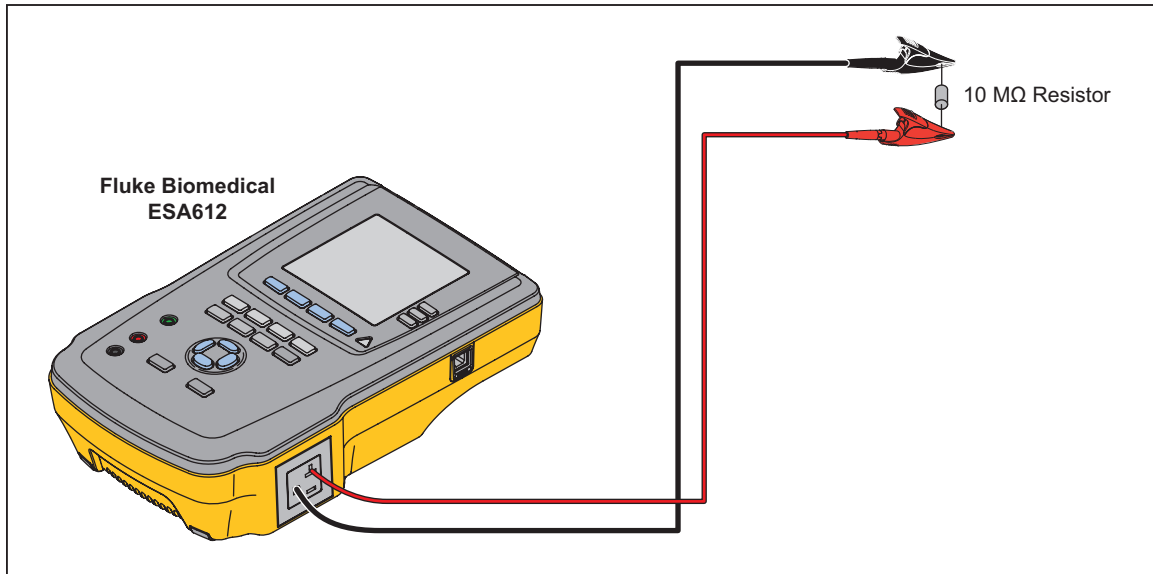

Figure 3-8. Mains to PE Verification Connections
23. Connect the EO Neutral and the EO ground across a 10.0-M Ω resistor as shown in Figure 3-8.